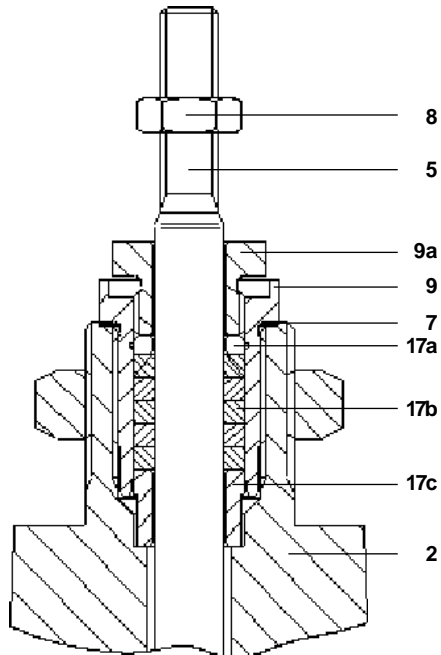

Fig. 5
- c) Remove the lock-nut (8).
- d) Unscrew the gland nut (9), remove and discard the gland seal set (11 + 17).
**Note:** the stem seal set on this valve is intended for emergency use in the event of bellows failure. Score marks or scaly deposits on the valve stem (5) will impair sealing efficiency.
- g) A new graphite gland seal set (17) should be fitted to the valve, care being taken to avoid damage to the bellows (see Section 4.2.2 for details).
- h) Ensure the gland nut (item 9a, Figure 5) is only **finger tight**.
- i) Ensure that the valve stem (5) moves freely.
- j) Refit the valve lock-nut (8).